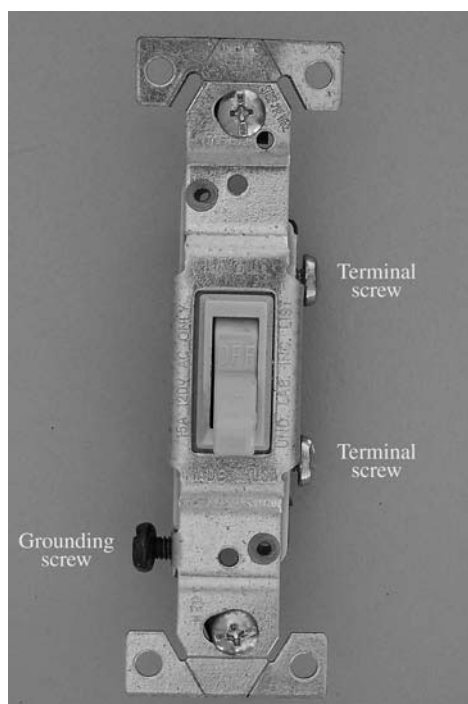

Figure 7-5 A single-pole switch contains only two terminal screws, and the words OFF and ON are shown on the switch lever.
1. They contain only two terminal screws (Figure 7-5). Switches will often contain an extra green screw used for grounding. The bare copper grounding wire connects to the green screw.
2. The words OFF and ON are shown on the switch lever. The switch contacts will be open (OFF) or closed (ON) when the switch lever is thrown in one position.